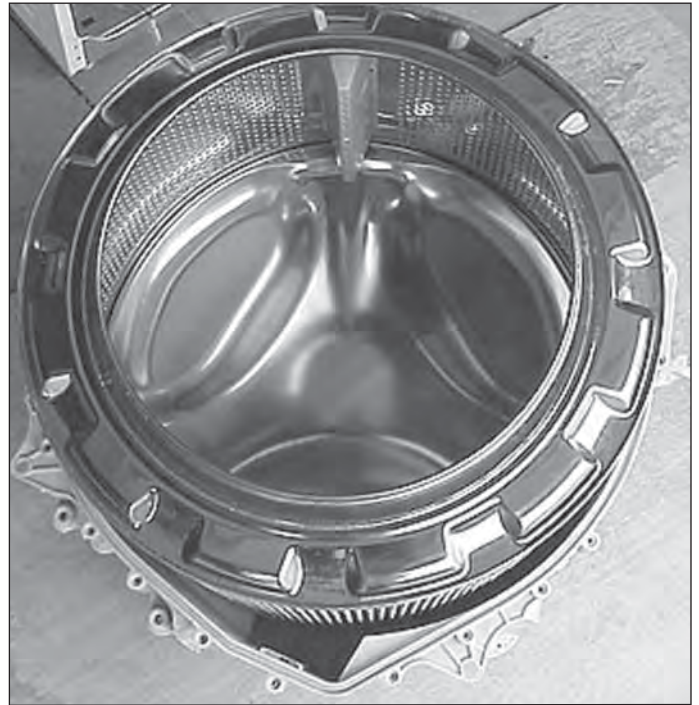

Figure 4-104.
13. Lift off the front half of the tub. (See Figure 4-104)